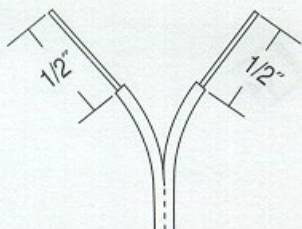

Figure 3-1
- Step 2** • **REMOVE 1/2"** of insulation from the garage door opener end of the wire. (Figure 3-1)